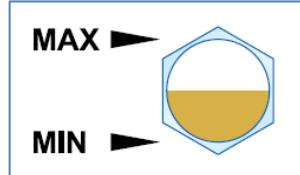
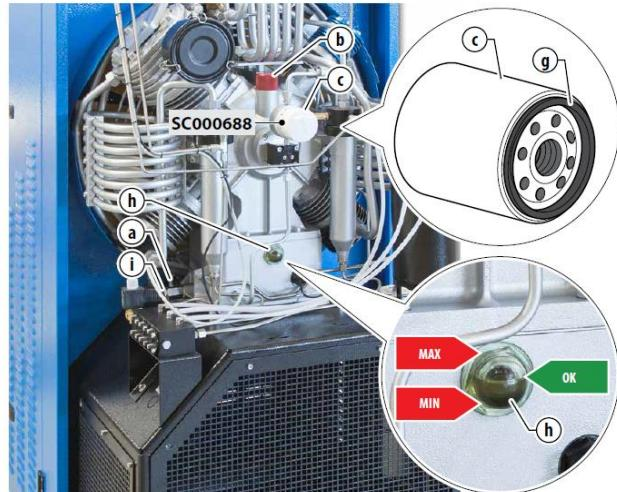
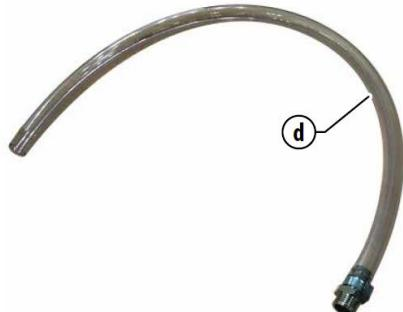

Figure 21. Oil level viewer.
Figure 22. Checking and changing lubricating oil.
Figure 23. Oil drain hose.
The oil level must be checked every five (5) working hours of the compressor. The oil level must be between the minimum and the maximum shown on the oil level viewer (Figure 21 and Figure 22).
- Position a receptacle under the drain hose (Figure 23) so that the oil flows into the exhausted oil receptacle.
- Open the drain valve (a, Figure 22) and let the oil flow out until the oil level returns within the maximum and minimum limits.
- Open the top fill plug (b, Figure 22).
- Position a used oil receptacle with a capacity of at least 1.2 gal (5 L) under the drain valve (a, Figure 22) so the oil flows into the receptacle. If necessary, use the supplied oil drainpipe (d, Figure 23), connecting the pipe fitting to the condensate drain tap (a, Figure 22).
- Open the top plug (b, Figure 22).
- Remove the plug (i, Figure 22), open the tap (a) and drain all the oil.
- Unscrew the filter (c, Figure 22) being sure to recover the oil inside it.
- Wet the gasket (g, Figure 22) of the filter with a little oil and firmly tighten the filter manually.
- Check the oil level (h, Figure 22); if the oil level is not within the allowed limits top up or drain off.